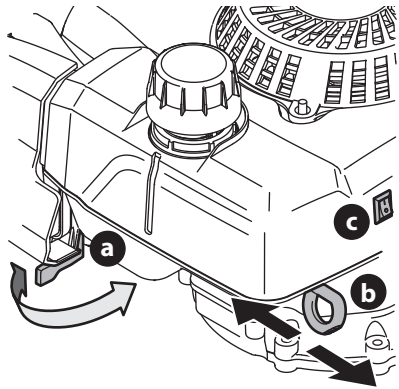

Figure 7
1. If equipped, ensure the fuel shut-off valve (a) is in the "ON" position (Figure 7).